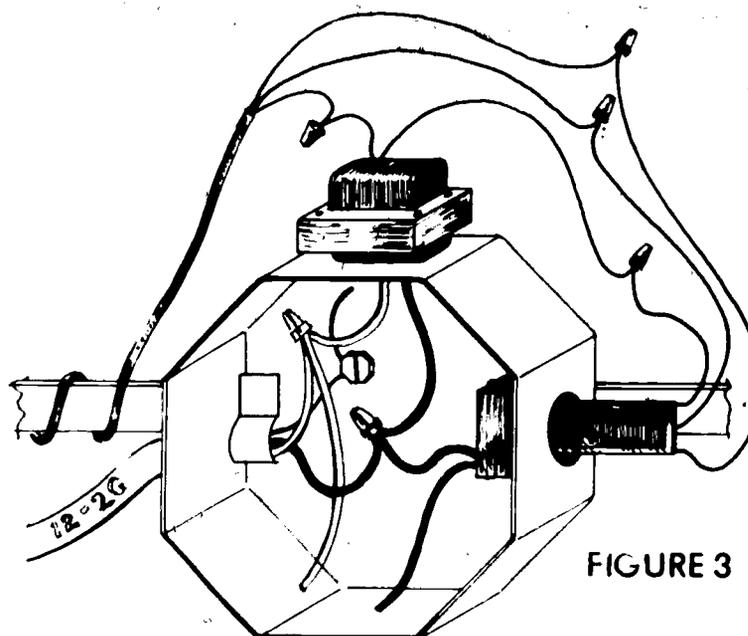

FIGURE 3
H. Make transformer and solenoid connections (Figure 3)
D. Drill holes (Figure 3)